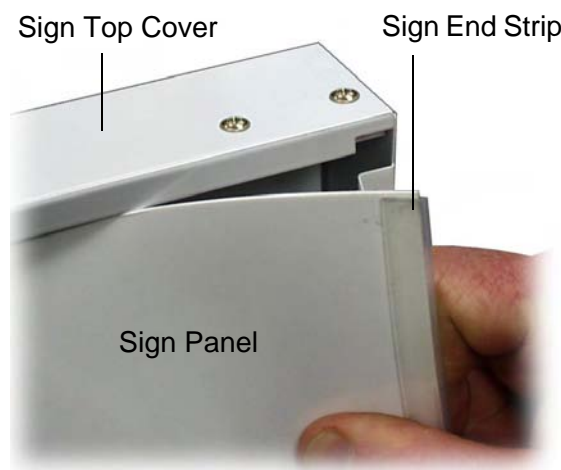

Figure 6:
2. Remove the sign panel by starting at one of the top corners and pulling the sign panel out from under the sign top cover (see Figure 6 below).